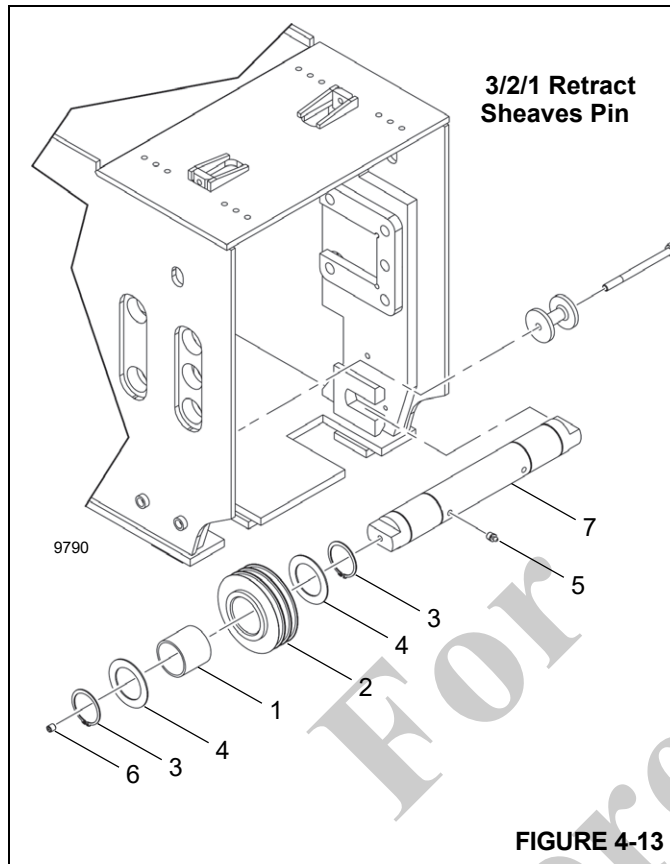

FIGURE 4-13
6. Disassemble the 3/2/1 retract cable pin (7, Figure 4-13) as follows:
- a. Remove snap rings (3) and washers (4).
- b. Remove 3/2/1 retract sheaves (2).
- c. Remove bearings (1) from 3/2/1 retract sheaves.
- d. Remove plugs (6).
- e. Remove grease fittings (5).